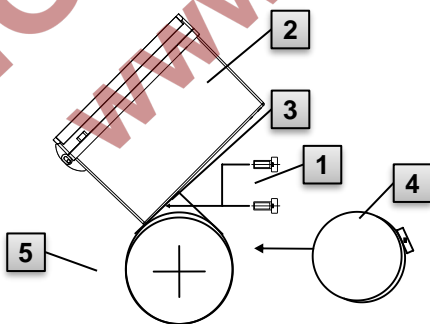

Fig. 7
1. Using two M5 x 10 mm (Fig. 7: 1) cylinder screws, insert the A2 universal bracket in the boreholes provided (Fig. 7: 3) on the EK280 (Fig. 7: 2).
3. The A2 universal bracket (Fig. 7: 3) and the device (Fig. 7: 2) should be fastened to the pipeline (Fig. 7: 5) using the pipe clamp (Fig. 7: 4).